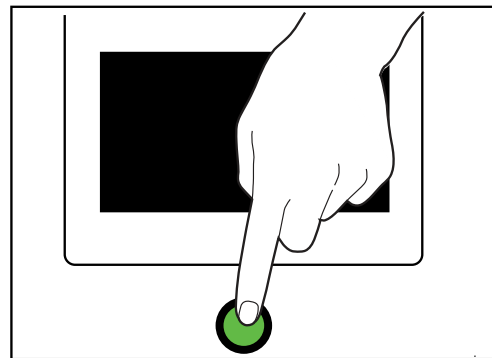

Fig. 33 - Dishwasher power switch
4. Push the green start button, (Fig. 33).